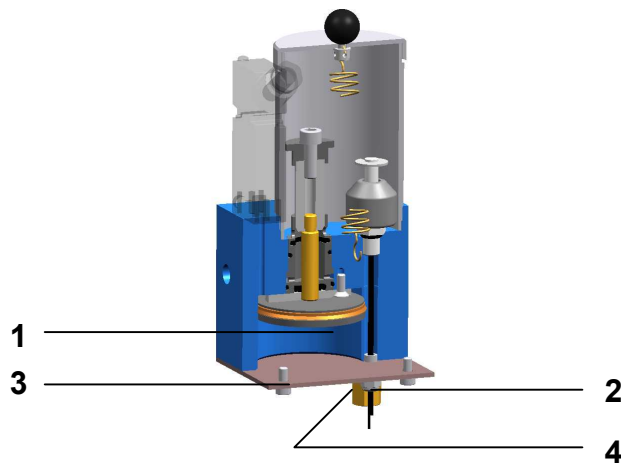

Fig. 5 How to Clean
If the required distance is not achieved the cilinder inside (1) has to be cleaned and greased again. Remove cable gland (2) from oil-level switch, untight 4 crews (3) and remove the bottom, see figure 5.
Clean the cilinder inside and grease with Molykote 55M or equal. Mount all parts and perform 10 manual strokes. At the last stroke the distance L should measured again. If the distance L is still to smal the “back” pressure from the turbine gas meter may be to high. This is to verify by removing the oil pipe (4) at the bottom side of the lubrication system see figure 5. Please collect the released oil and discharge it in the correct way.